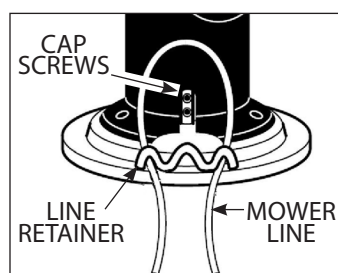

FIGURE 10A
3. First, thread the ends of the new mower line through the outside loops. **SEE FIGURE 10A.**